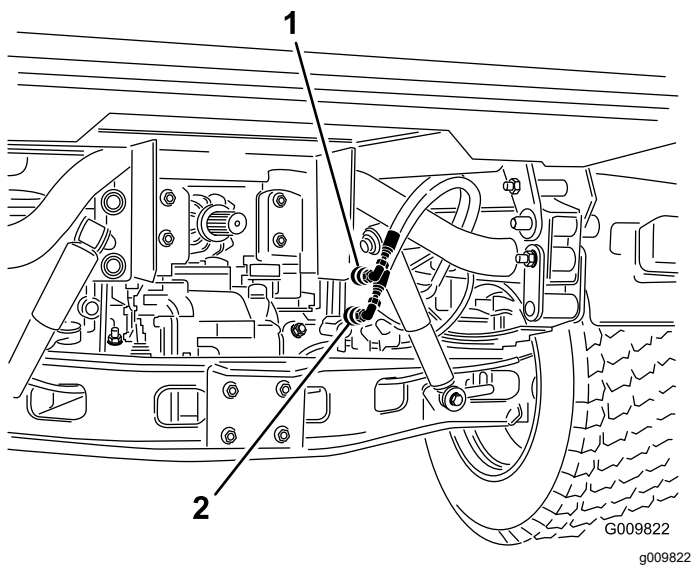

Figure 73
2. On both machine, disconnect the 2 quick-coupler hoses from the hoses secured to the coupler bracket (Figure 73).